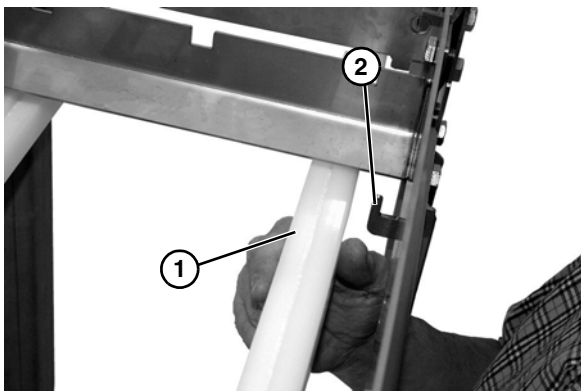

Figure 27
2. Install belt return (**Figure 27, item 1**) onto mounting bracket (**Figure 27, item 2**).